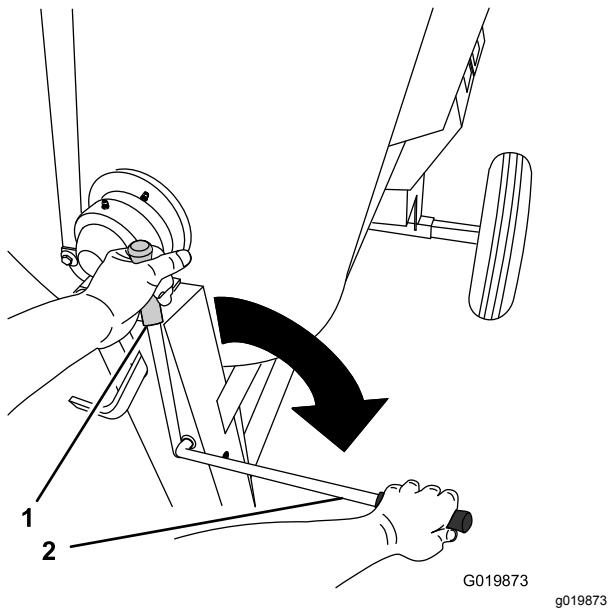

Figure 30
- Move the clutch lever to the OFF position (Figure 30).
- Move the clutch lever to the ON position (Figure 30).